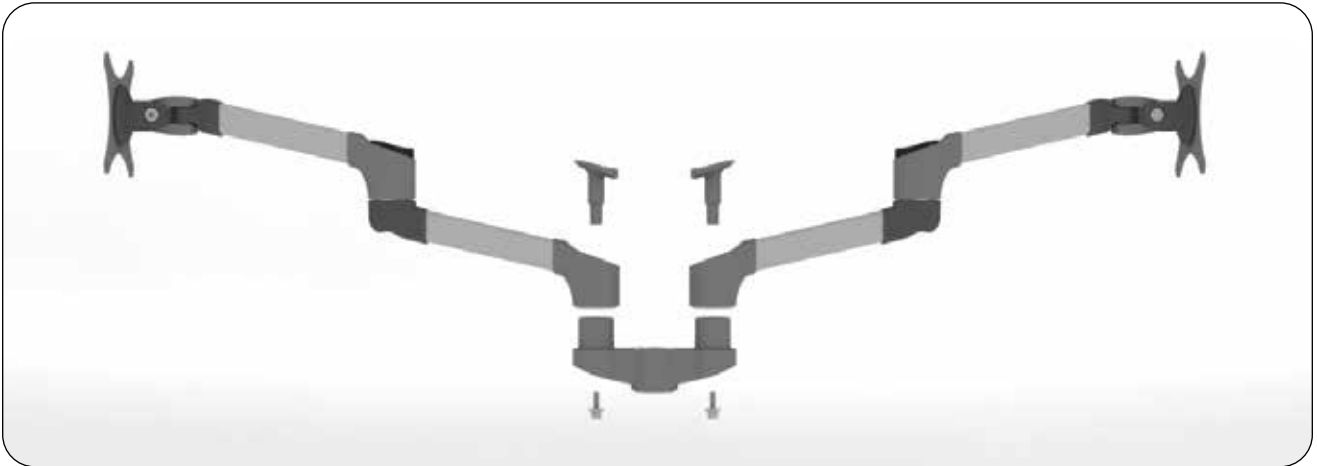

Figure 4
1. Attach the 2 LCD Arm (1) sections to the Dual Arm Bracket (2) as shown. **(Figure 4)**